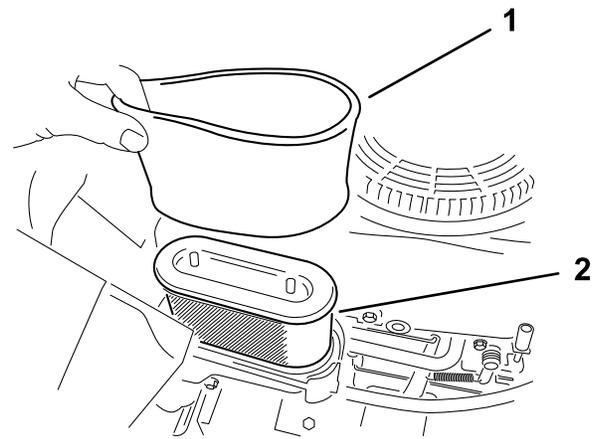

Figure 31
Note: If it is very dirty, replace the paper element (Figure 31).
5. Carefully remove the foam and paper filter elements from the air-cleaner housing (Figure 31).
1. Install the foam filter onto the paper filter (Figure 31).